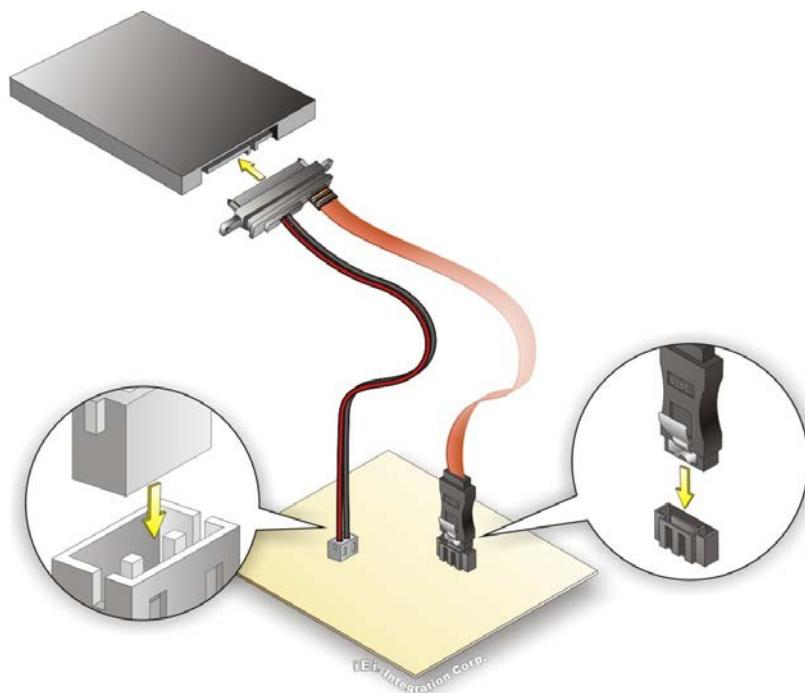

Figure 4-17: SATA Drive Cable Connection
Step 2: Insert the cable connector. Insert the cable connector into the on-board SATA drive connector and the SATA power connector. See **Figure 4-17**.
Step 3: **Connect the cable to the SATA disk.** Connect the connector on the other end of the cable to the connector at the back of the SATA drive. See **Figure 4-17**.